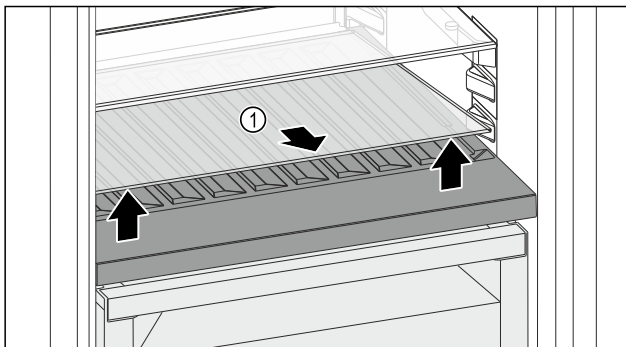

Fig. 112
- Lift the glass shelf Fig. 112 (1) in the front at the recess and pull it out.
- Store the glass shelf Fig. 112 (1) somewhere safe outside of the appliance.